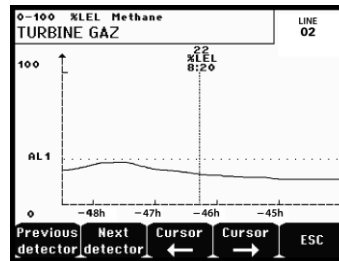

Figure 36: Example of a curve display screen.
- **Curve**: Display of the measurement curves of the last 4 hours (Figure 36). The \rightarrow and \leftarrow keys allow cursor displacement through the time scale. The vertical dotted line displays the concentration and time stamp of the point being considered. Escape: return to display of values.